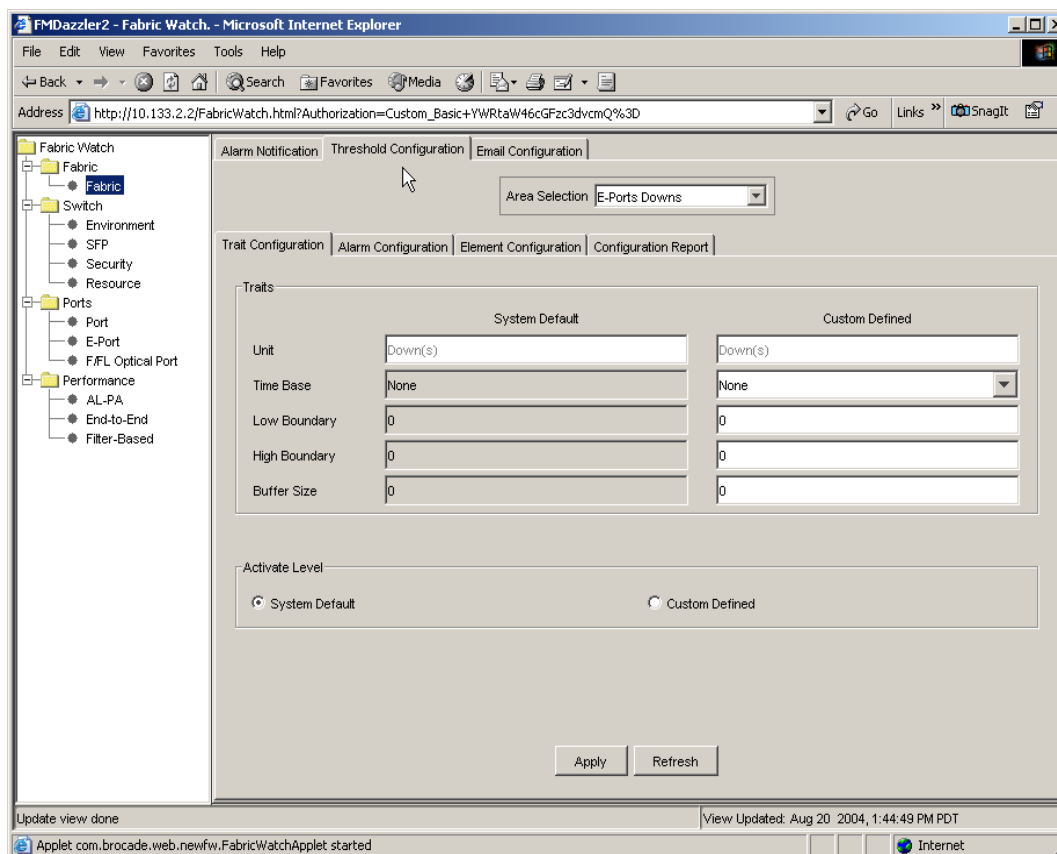

Figure 119 Threshold configuration tab display within the Fabric Watch window
Use the Threshold Configuration tab (see Figure 119) to view and configure Fabric Watch thresholds for the Fabric Watch class that you select in the Fabric Watch navigation tree. Table 44 lists and describes the components of the Threshold Configuration tab.
2. Select the **Threshold Configuration** tab (see Figure 119 on page 180).